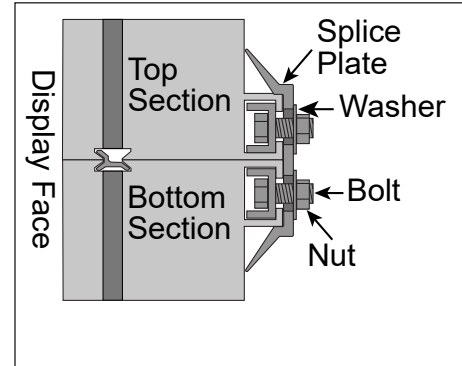

Figure 6: Installed Flat Splice Plate
7. Attach the splice plates and splice T-clips along the section splice, as shown in **Figure 6**. Use an $\frac{11}{16}$ " impact wrench or ratchet to tighten all nuts on the splice plates and splice T-clips.